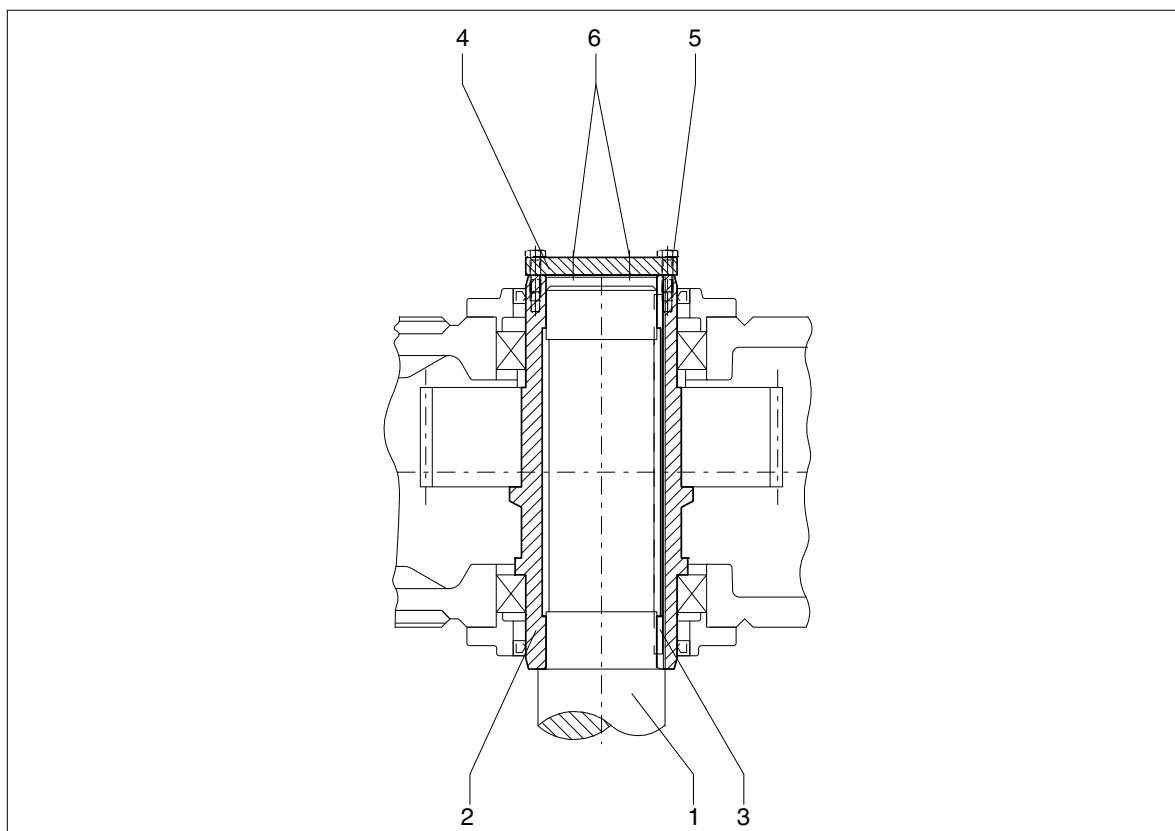

Fig. 57: Hollow shaft with parallel keyway, demounting with end plate
- When the rust-releasing agent has taken effect, pull the gear unit off using the device (see figures 57 and 58).
- preferably using forcing-off bolts in an end plate (see figure 57),